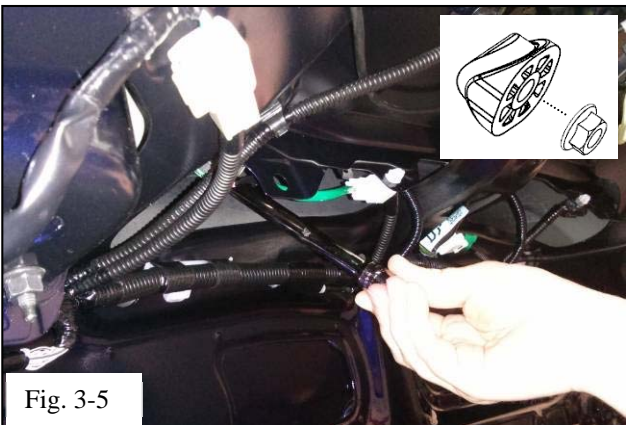

Fig. 3-5
- (f) While holding the spoiler to prevent it from moving left to right, open the trunk lid and loosely hand the two M6 nuts onto the studs tighten (enough to compress the foam and seat the spoiler to the trunk lid curvature) (Fig 3-5). Note that the plastic spacers with foam are installed between the M6 nuts and the inside of the trunk lid as shown in the inset image.